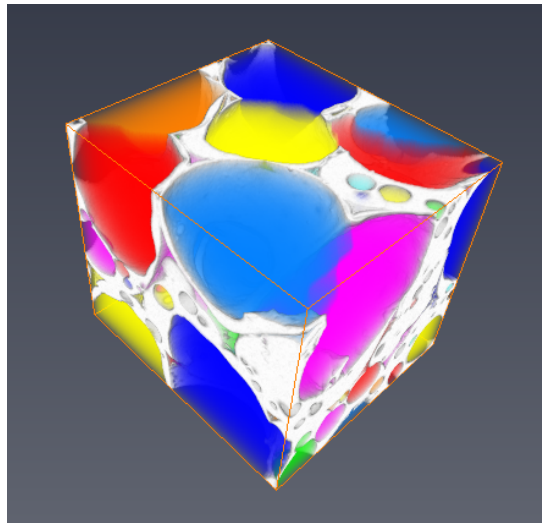

Figure 20.9: Void Data Mixed with Original Data
- Display the result by creating another *Volume Rendering* module on the previous output (see Figures 20.9 and 20.10).